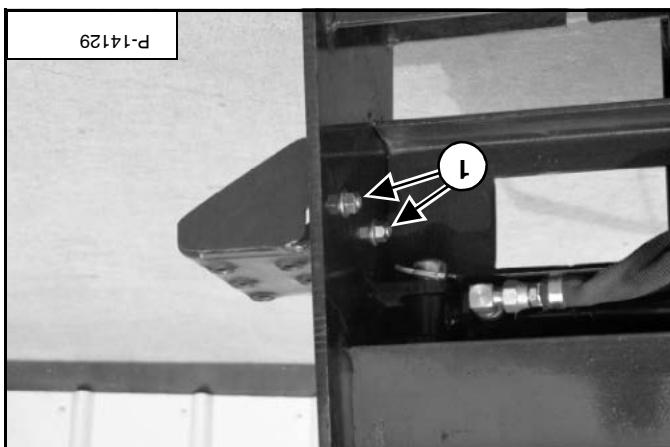

Figure 62
Remove the two bolts (item 1) [Figure 62] attaching the step to the main frame.